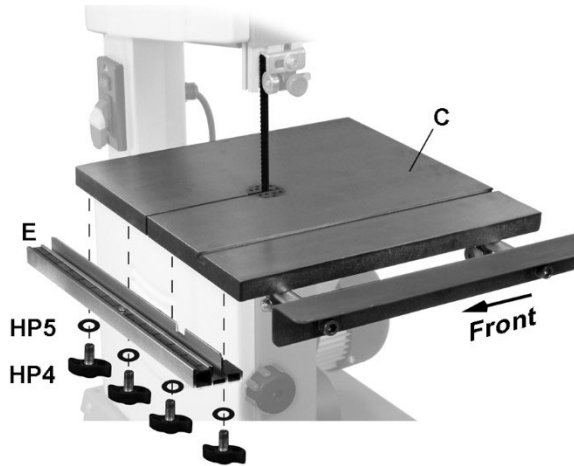

Figure 6
1. Attach guide rail (E, Figure 6) to front of table. Secure with four wing screws (HP4) and flat washers (HP5).
4. Remove guide rail (E, Figure 6).